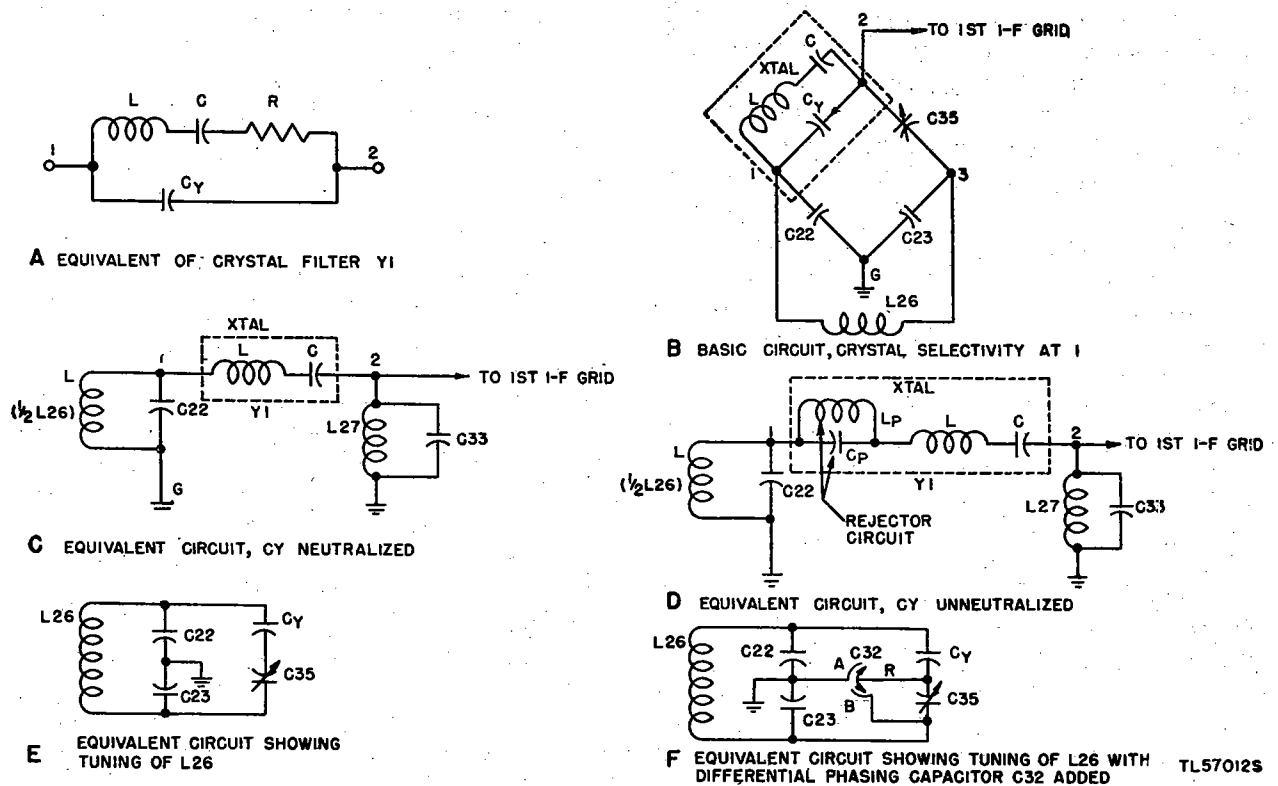

Figure 28. Radio Receiver BC-779-B, functional and equivalent diagrams of crystal filter circuit.
(4) Refer to appendix III for circuit details of Improvement Kit MC-531.
61. Crystal Filter (fig. 28)
a. EQUIVALENT CRYSTAL CIRCUIT. The equivalent electrical circuit of a crystal is shown in "A," figure 28. The circuit, and hence the crystal, are resonant at two frequencies: The frequency at which the reactance of L is equal to the reactance of C (series resonance), and the frequency at which the effective reactance of L-C (in series) is *inductive* and *equal* to the capacitive reactance of C_X (parallel resonance). At the series-resonant frequency the crystal acts as a low-impedance connection between 1 and 2. At the parallel-resonant frequency the crystal acts as a high impedance between 1 and 2.
b. BASIC FILTER CIRCUIT ("B," fig. 28). Capacitors C22 and C23 (100 mmF each) are connected in series across the secondary of i-f input transformer L26, and their junction is grounded to provide a midpoint connection in the resonant circuit L26-C22-C23. Consequently, the capacitor voltages are always of equal amplitude but 180° out of phase. Phasing capacitor C35 (1.5 to 5 mmF) is connected between 3 and 2, and the crystal is connected between 1 and 2.
c. NEUTRALIZATION OF C_X . Capacitors C22, C23, C35, and C_X (the capacity between the crystal holder plates) form a capacity bridge; the input is applied to 1 and 3, the output is taken from 2 and G. When capacitor C35 is adjusted so that its capacitance is equal to that of C_X , the voltage coupled from 3 through C35 to 2 is equal and opposite to the voltage coupled from 1 through C_X to 2. Under this condition C_X is neutralized and the crystal acts as a series-resonant circuit only ("C," fig. 28). Since the crystal is resonant at the intermediate frequency, there is (in effect) a direct connection between 1 and 2. As indicated in "C," figure 28, only the voltage across C22 (one-half the secondary voltage) is applied through the crystal to the grid circuit of the first i-f stage.
tance of $L-C$ and the capacitive reactance of C_Y . For simplicity the parallel-resonant circuit is denoted as rejector circuit $L_P C_P$ in "D," figure 28. L_P and C_P denote the effective inductance and capacitance at the parallel-resonant frequency. L and C indicate the effective inductance and capacitance of the crystal at the series-resonant frequency, in this case the 465-kc i.f. In other words, unless C_Y is neutralized, the crystal acts simultaneously as a parallel- and series-resonant circuit. The parallel-resonant circuit $L_P C_P$ has no effect on the 465-kc i.f. but presents a high impedance to, and therefore rejects, the frequency to which $L_P C_P$ is resonant. L and C present extremely low impedance to the 465-kc i-f signal voltage and high impedance to voltages at different frequencies. *With underneutralization the resonant frequency of $L_P C_P$ is higher than 465 kc.*
f. CAPACITOR C32. Capacitor C_{35} , in series with capacitance C_Y , is across L_{26} and affects its tuning ("E," fig. 28). To avoid the detuning effect and to enable shifting the rejection frequency to either side of the i.f., differential PHASING capacitor C_{32} ("F," fig. 28) is used in the radio receiver. Stator sections A and B are so arranged that, as rotor R is turned out of one stator into the other, the capacitance of the first decreases by the same amount that the capacitance of the second increases. Thus, whether the rotor is entirely engaged in stator A, is at a midpoint, or is entirely in stator B, the effective capacitance across A-B, and therefore across L_{26} , remains constant. Assume that C_{32} , the PHASING capacitor, is set at the arrow position of the PHASING control on the front panel and
(2) **CRYSTAL SELECTIVITY switch at 1.** When CRYSTAL SELECTIVITY switch SW7 is placed at 1, the short is removed from the crystal. If the secondary of L26 and the parallel-resonant grid circuit, L27-C33, are tuned to 465 kc, each is the equivalent of a high resistance in series with the equivalent series-resonant circuit of the crystal ("C," fig. 28). Consequently, the Q and therefore the selectivity of the series-resonant (crystal) filter circuit is reduced, and the bandwidth is several kilocycles wider than that of the crystal alone.